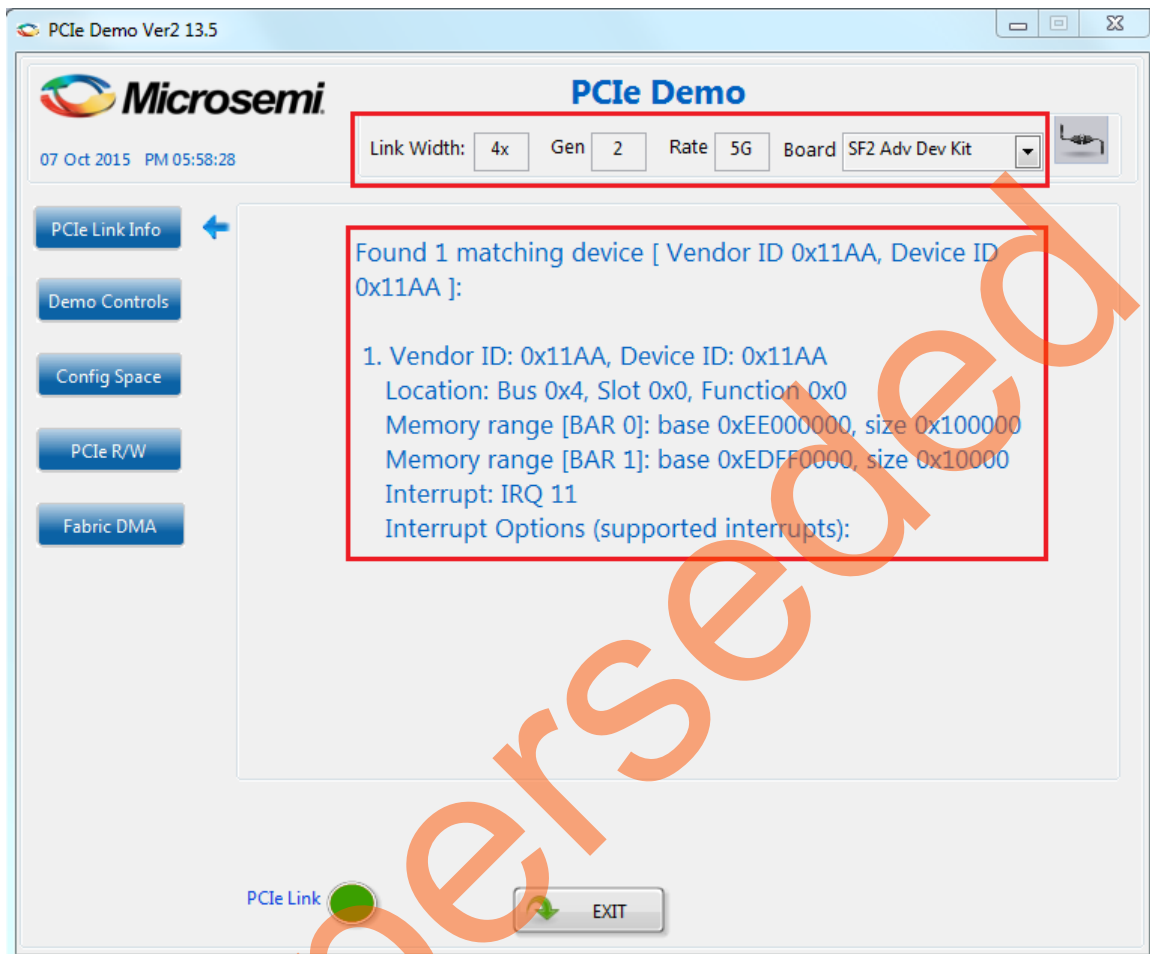

Figure 19 • PCIe Device Information
- Click the **Connect** icon at top right corner of the PCIe_Demo application. The application detects and displays the connected Kit, demo design, and PCIe link. Figure 19 shows the example messages after the connection is established.